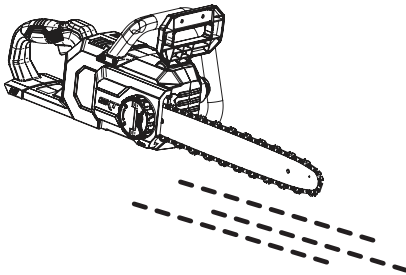

Fig. 11
1. Make sure the guide bar (9) and the saw chain (8) are in place when you check the oil delivery.
2. Start the product; keep it running at no load and check if the chain oil is delivered as shown in the figure (Figs. 11, 12).